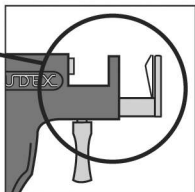

Figure 6
1. Before and after each piercing, thoroughly cleanse the entire area of the clasp retainer (see Fig. 6) by wiping with a cotton ball or swab moistened with alcohol.